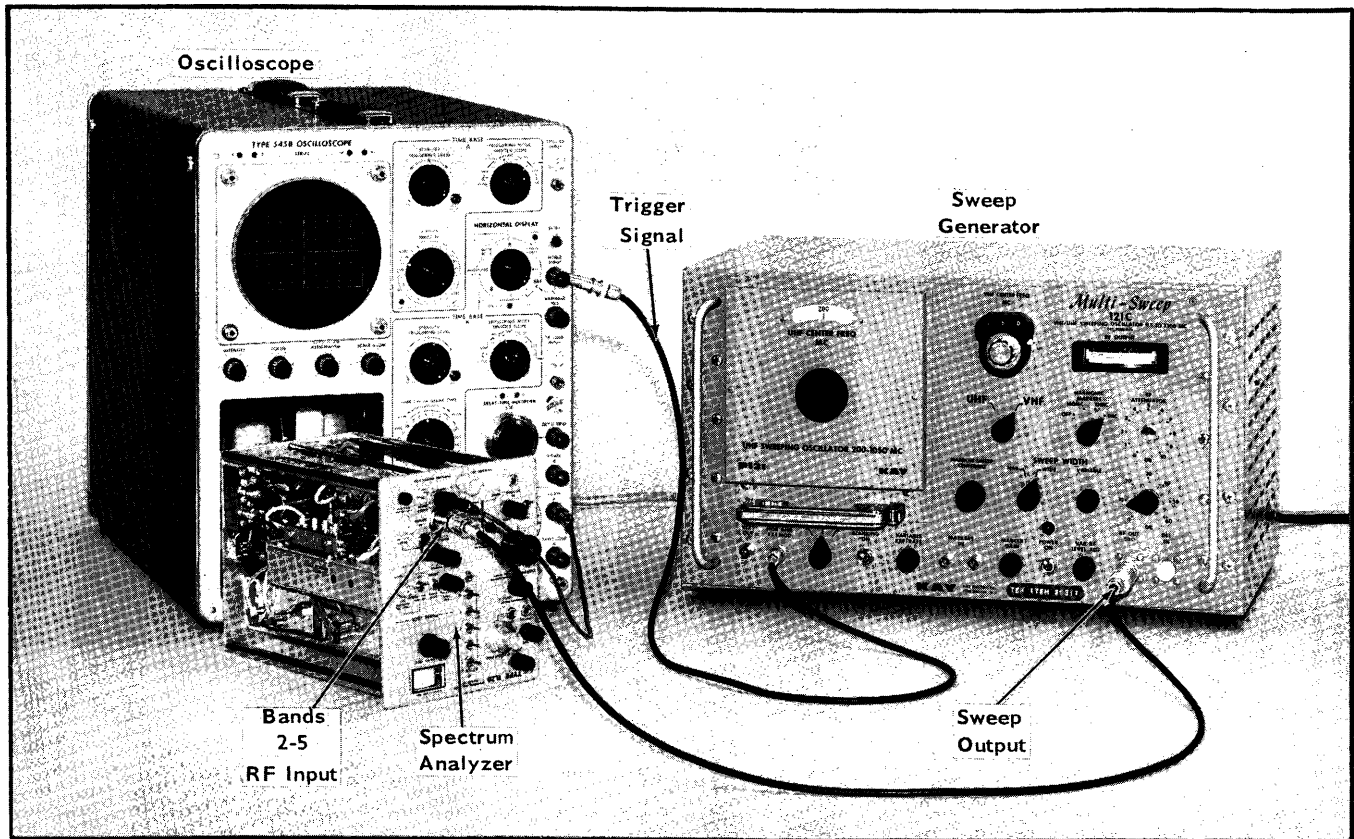

Fig. 6-17. Setup for adjusting Wide-Band Amplifier (Step 10) and checking the Low Pass and Band Pass Filters (Step 11).
10. Adjust Wide-Band Amplifier Circuit ①
b. Connect the equipment as shown in Fig. 6-17.